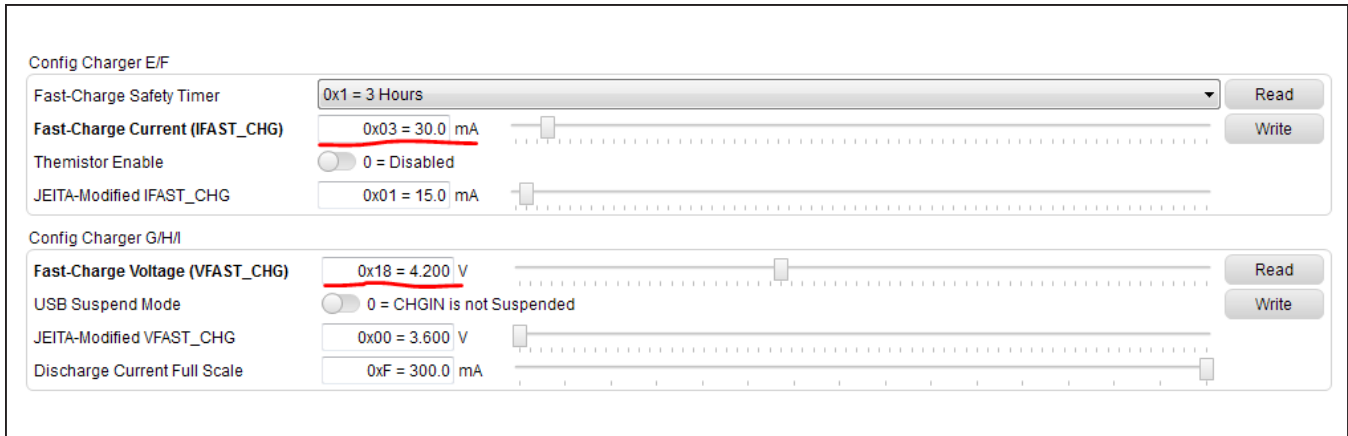

Figure 5. Quick Configuration of the Charger
- 13) In the GUI, set the VFAST_CHG register to 4.2V, set the IFAST_CHG register to some current that is safe for your battery (e.g., 30mA for a 45mAh cell) (see Figure 5).